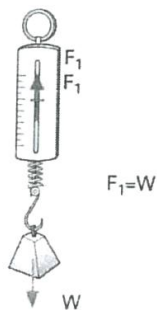

Fig. 2
- 10 The block in Fig. 2 has a weight of 10 new tons. The weight on the balance pulls the spring down. To give equilibrium, the spring pulls up to oppose that weight. This upward force,  $F_1$ , equals the weight of the block,  $W$ .